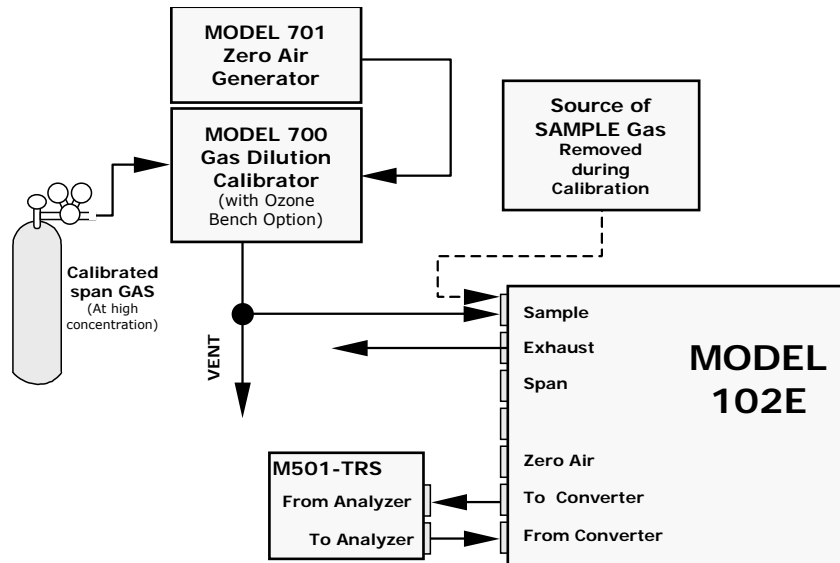
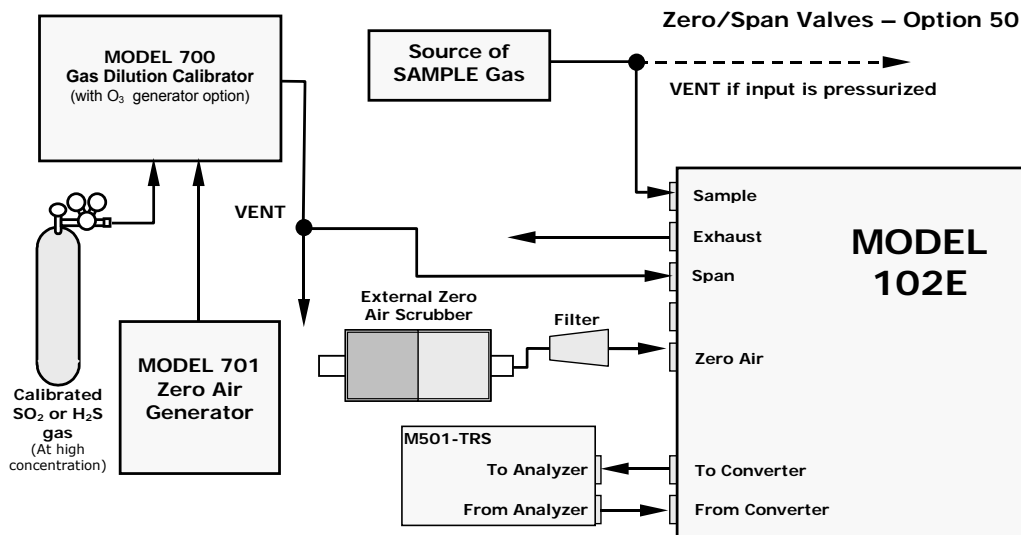

Figure 3-7: Pneumatic Connections—Basic Configuration—Using Gas Dilution Calibrator
Figure 3-9: Basic Pneumatic Connections for Units with Zero/Span Valve Option
Figures 3-7 and 3-8 show the most common configurations for gas supply and exhaust lines to the Model 102E Analyzer. Figures 3-9, 3-10 & 3-11 show the connections for units with valve options installed.
If your analyzer is equipped with either the zero/span valve option (Option 50) or the internal zero/span option (Option 51), the pneumatic connections should be made as shown in Figures 3-9; 3-10 & 3-11:
- With external pneumatic connections as described in Figures 3-7 through 3-11 of this addendum, and;